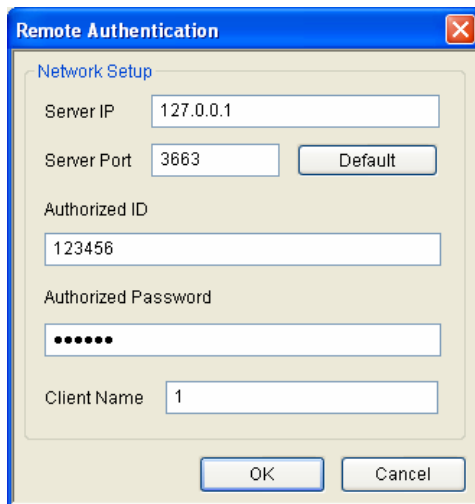

Figure 11-35
- On the Host List, right-click **Host List by ID** and select **Remote Authentication Setup**. A dialog box appears. See Figure 11-35.